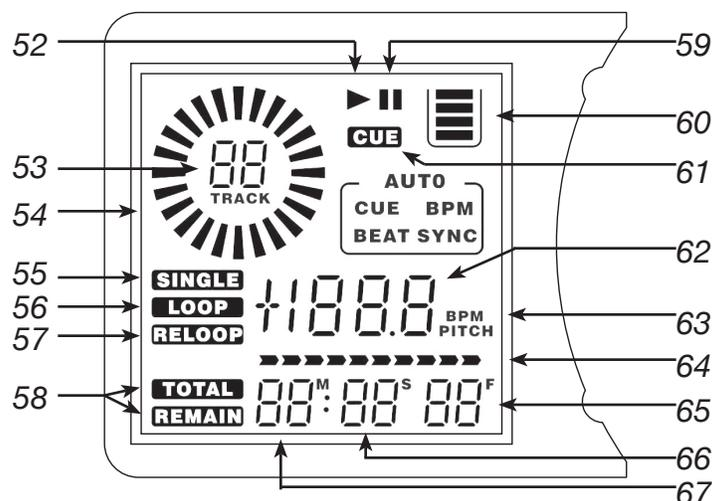

Figure 5
D. LCD DISPLAY PANEL (FIGURE 5)
58. REMAIN INDICATOR - When "REMAIN" is indicated in the LCD DISPLAY (34) the TIME DESCRIBED (65, 66, & 67) in the LCD will define the current track's remaining time.